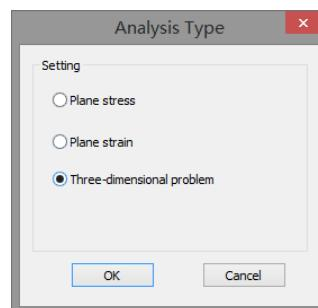

Figure 41 Definition of analysis type
- (4) Define the analysis type (Figure 41);